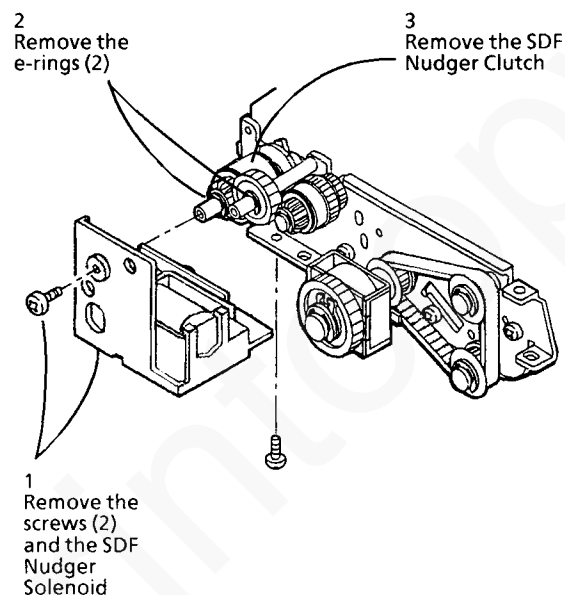

Figure 1. Removing the SDF Nudger Clutch
5. Remove the SDF Nudger Clutch (Figure 1).